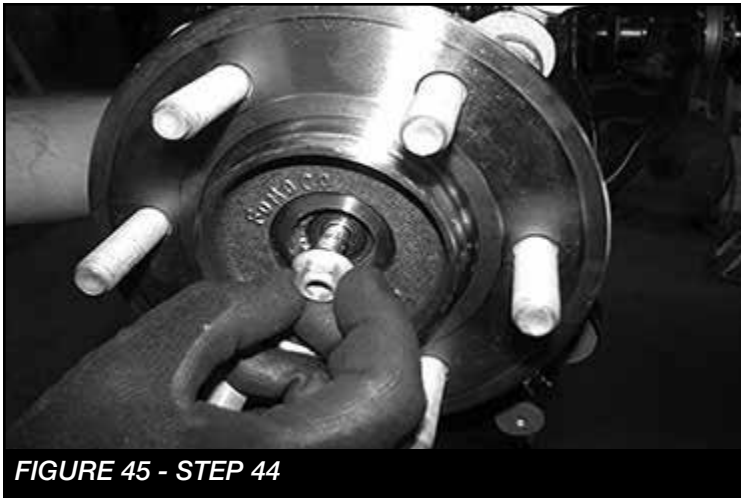

FIGURE 45 - STEP 44
44. Install the dust shield and torque to 14 ft-lbs. Install CV shaft nut and torque to 35 ft-lbs. Install the factory dust cover. **SEE FIGURE 45**